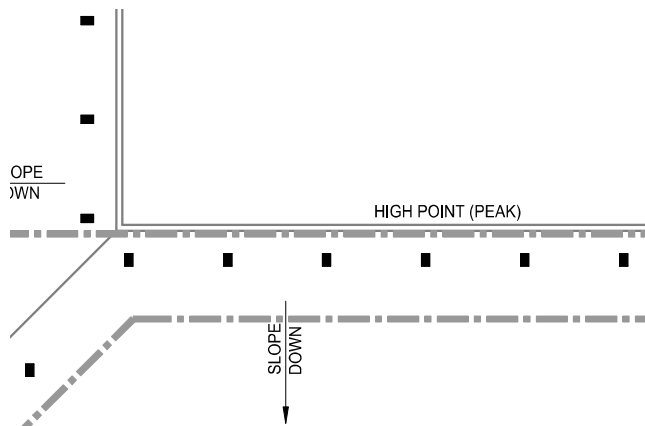

FIGURE 24A: 1 ROW PROTECTION CALCULATION
- Calculate the 7 most hydraulically demanding contiguous DS sprinklers located along the high point plus the 2 most demanding sprinklers along the hip line. See Figure 24A.